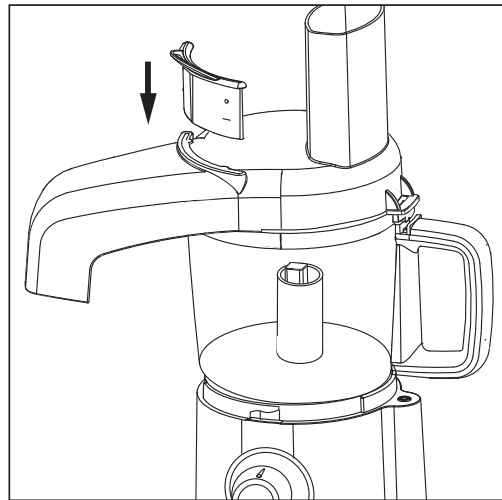

Figure 6
**NOTE:** Make sure the Flow Insert is pushed down so sliced/shredded food will remain in the bowl (Figure 6).